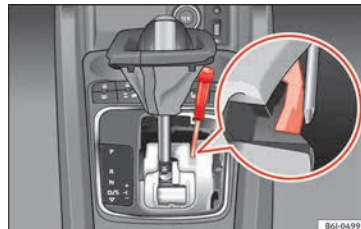

Fig. 47 Manual release of the selector lever.
- Press the yellow plastic part with your finger in the direction indicated by the arrow » » » **Fig. 47**.